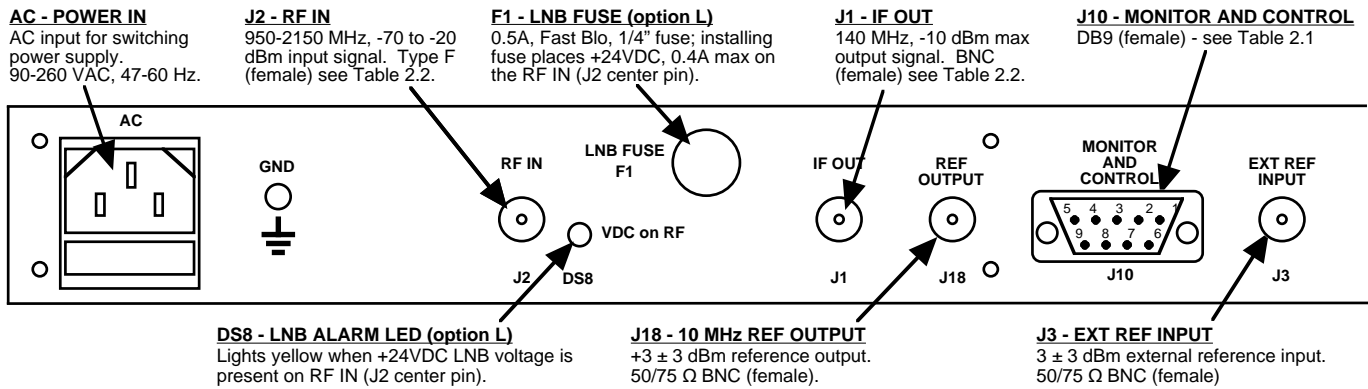

FIGURE 2.2 2016-24 Rear Panel I/Os
Figure 2.2 shows the input and output connectors on the rear panel.
1. Connect a -70 dBm to -20 dBm signal to RF IN, J2 (Figure 2.2)
3. Connect 100-240 \pm 10% VAC, 47 - 63 Hz to AC on the back panel (Figure 2.2).
7. Option L ONLY - To insert LNB +24 VDC on the RF center pin install 0.5A fast blo fuse (included) in F1 and check that DS8 lights yellow (Figure 2.2)